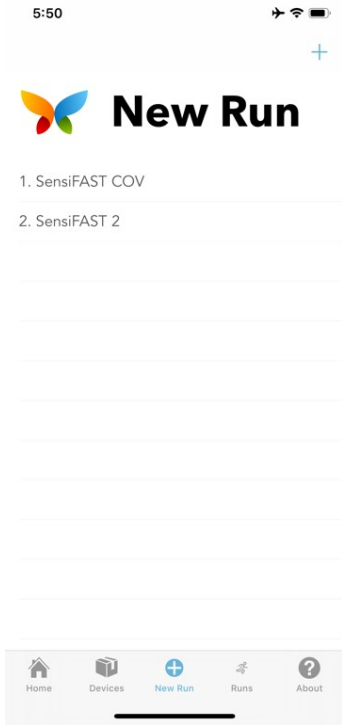

Figure 14: Select from saved Protocols.
- 1.3.3. Click on the **New Run** and select the desired protocol from the list of saved protocols (**Figure 14**).